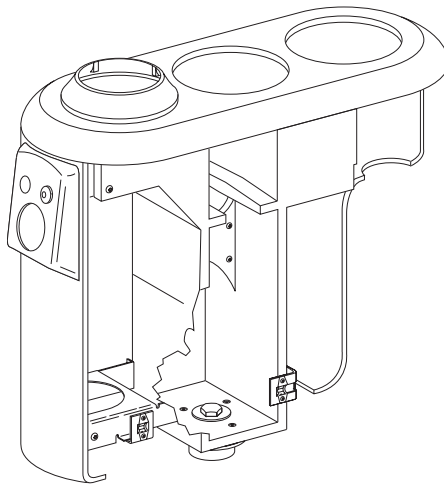

Figure 7. Leveling Mechanism
1. Using a 15/16-inch open end or socket wrench, loosen the center bolt (*see Figure 7*) approximately three turns so the post box will wobble.